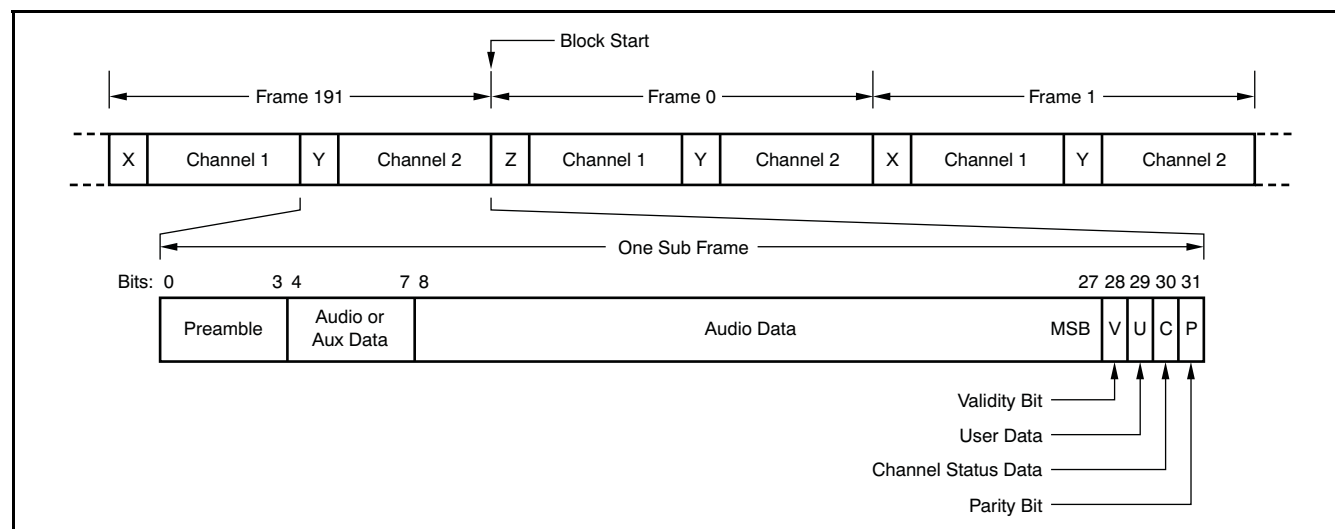

Figure 8. AES3 Frame and Subframe Encoding
For AES3 transmission, data is encoded into frames, with each frame containing two subframes of audio and status data, corresponding to audio Channels 1 and 2 (or Left and Right, respectively, for stereophonic audio). Figure 8 shows the AES3 frame and subframe formatting. Each subframe includes four bits for the preamble, up to 24 bits for audio and/or auxiliary data, one bit indicating data validity (V), one bit for channel status data (C), one bit for user data (U), and one bit for setting parity (P).
The 4-bit preamble is used for synchronization and identification of blocks and subframes. The X and Y preamble codes are used to identify the start of the Channel 1 and Channel 2 subframes, as shown in Figure 8. However, the X preamble for the first subframe of every 192 frames is replaced by the Z preamble, which identifies the start of a new block of channel status and user data.